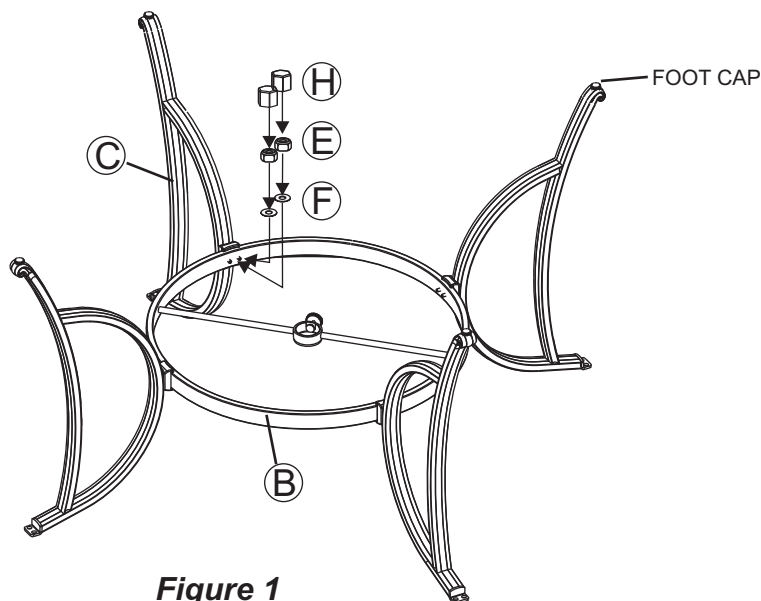

Figure 1
**1** **Important: We recommend 2 people work together to assemble the chair.** Note the arrow labels on the "U" bar and the rocker assembly. Also note the horseshoe shape of the rocker plate. Point the open end of the horseshoe away from you. The arrows on the rocker assembly should be pointing towards you. Set the chair frame on the rocker assembly with front of the seat facing you and the arrows on the "U" bar pointing towards you as shown in **Figure 1**. This is very important for a safe, balanced rocking motion. **If chair frame has been properly positioned on the rocker assembly, all arrows on the "U" bar and rocker assembly will be pointing in the same direction.**
- 1 Attach a leg to the leg connector bracket by carefully guiding the bolts already in place on the table legs (each leg has two bolts) through the holes in the leg connector bracket. Add a washer and a nut to the end of each bolt as shown in **Figure 1**. **Hand tighten only**. Repeat on the other three legs.